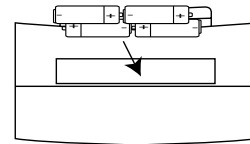

Figure 3
3. Insert 4 'AA' size batteries (used for clock/radio preset backup) as shown in figure 3 and then replace the inner battery compartment door.